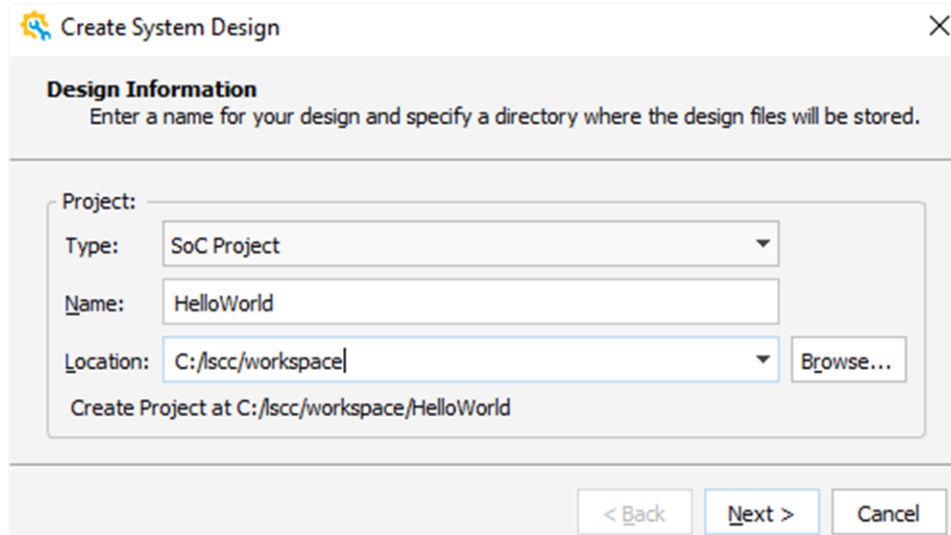

Figure 2.9. Create System Design – Design Information Wizard
1. Choose **File** >  **New Design** from the Lattice Propel Builder Menu bar. The Create System Design wizard (Figure 2.9).opens